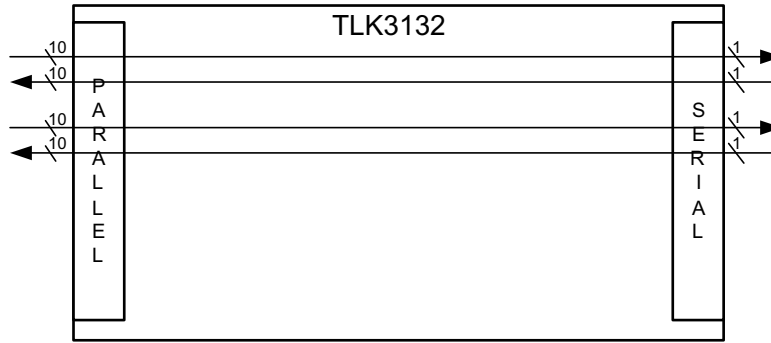

Figure 2-1. Dual 10-Bit SERDES Application
Figure 2-1 shows the TLK3132 in a dual independent channel SERDES Application. The 1000Base-X PCS layer can be enabled or disabled. Note that in independent channel mode, the 8B/10B encoder/decoder functions can either be turned on or turned off. When turned off, either 5 or 10 bits (DDR/SDR) of data is accepted from and presented to the parallel side. When the 8B/10B encoder/decoder functions are enabled, 1 bit of control and 8 bits of data are accepted from and presented to the parallel side using the standardized (R)GMII control characters